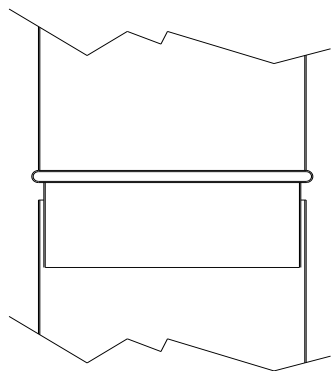
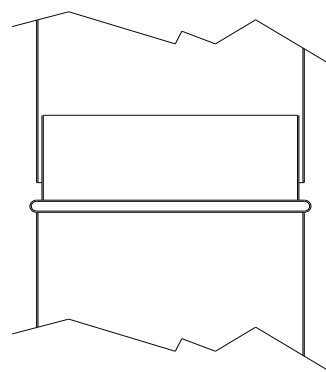

Figure 1.
Figure 2.
- When the pipes run through the inside of the home or a brick chimney, they should be mounted as shown in Figure 1 to prevent liquids produced by the condensation of the gases flowing through the joints and out of the pipes. If a pipe section runs outside the building it must be mounted in the direction shown in Figure 2 to prevent rainwater draining down the outside part of the pipe and entering into the pipe interior through the joints.